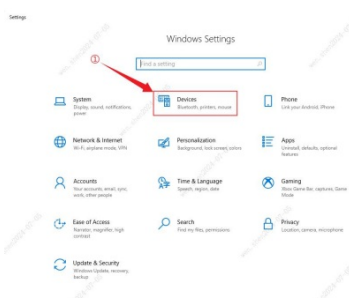

Fig.1
1. The laptop can be paired with the printer that needs to be connected via the system’s Bluetooth function (shown in Figs.1 to 4).